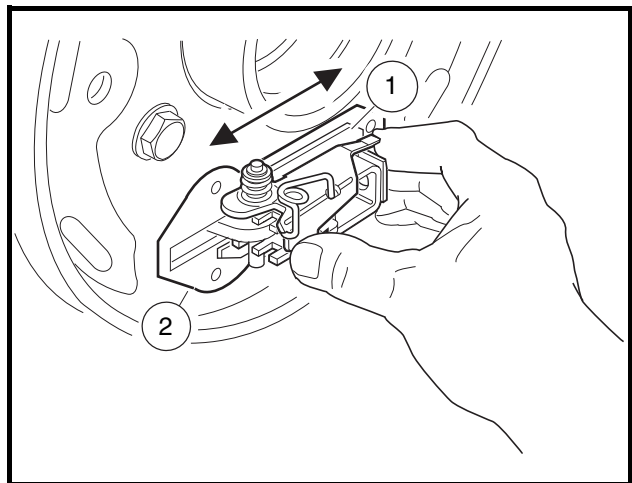

Figure 6-7 Lubricate Slide
3. Lubricate the slide (1) and slide plate (2) with dry moly lubricant (CC P/N 1012151) on both sides of the backing plate. After lubricating, work the slide back and forth to ensure it slides smoothly and easily (Figure 6-7, Page 6-3). Reinstall rubber boot onto backing plate. **See following WARNING.**